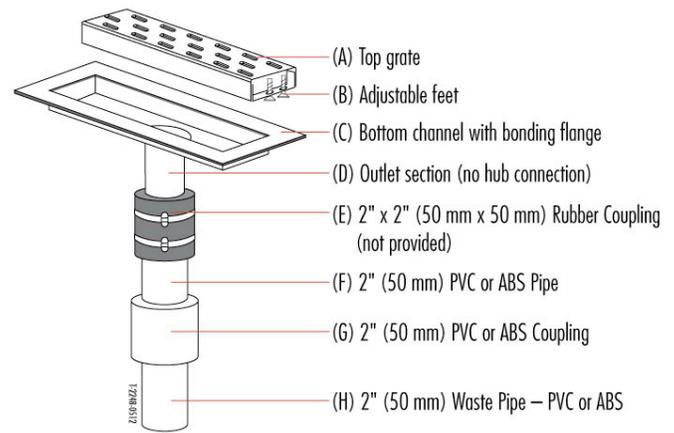

Fig. 3
Instructions to make a drain waste line connection with no access to tighten rubber coupling. Fig. 3 cut the 2" (50 mm) waste line (H) so the drain, a 2" (50 mm) rubber coupling (E), a length of 2" (50 mm) plastic pipe (F) (plastic pipe material should match waste line and plastic coupling material) and 2" (50 mm) plastic coupling (G) can be added to the drain outlet. Cement a 2" (50 mm) diameter plastic coupling (G) to the length of the 2" (50 mm) diameter plastic pipe (F) using the appropriate cement for either PVC or ABS. Attach the rubber coupling (E) to the linear drain outlet and the length of 2" (50 mm) diameter plastic pipe (F). Tighten hose clamps on 2" (50 mm) rubber coupling (E). The final connection is made when the linear drain is installed by cementing the free end of the 2" (50 mm) diameter coupling (G) to the waste line (H).